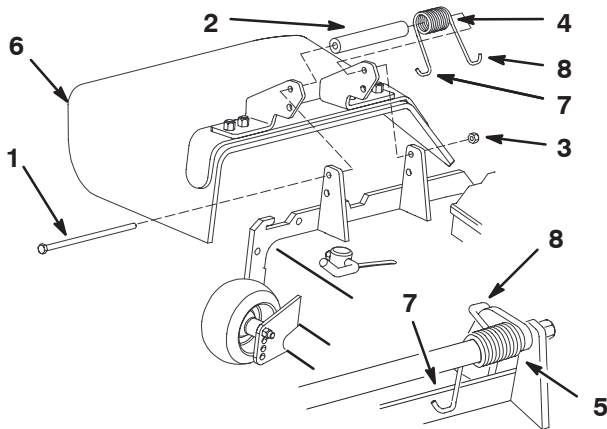

Figure 39
2. Remove the locknut, bolt, spring and spacer holding the deflector to the pivot brackets (Fig. 39). Remove damaged or worn grass deflector.
3. Place the spacer and spring between the grass deflector brackets (Fig. 39). Place the left hand J hook end of the spring behind the deck edge.
Note: Make sure the left hand J hook end of the spring is installed behind the deck edge before installing the bolt as shown in figure 39.
4. Install the bolt and nut. Place the right hand J hook end of the spring around the grass deflector (Fig. 39).